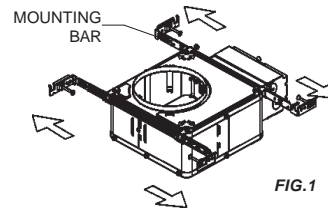

FIG.1
1. Completely remove mounting bars by extending them past their lock point. (Fig.1)